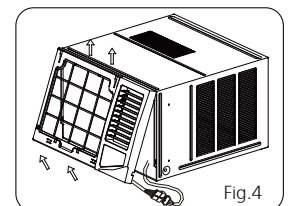

Fig. 4
2. Disconnect the coupler plugs and make sure not to interfere with the temperature sensor cable. Hold the left bottom side of the frame, lift it up to unlatch the lower side, remove it towards you (See Fig. 4).